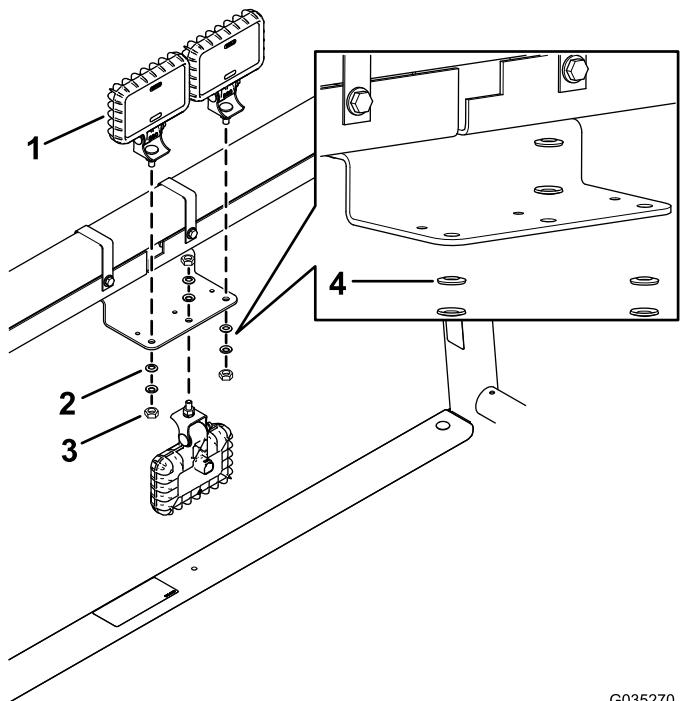

Figure 5
- 3. Install the 3 LED work lights to the work-light bracket with the 3 flange nuts (already installed on the LED work lights) and the 6 spring washers (Figure 5).
Note: Ensure that each spring washer is positioned so that the convex side faces the flange nut as shown in Figure 5.